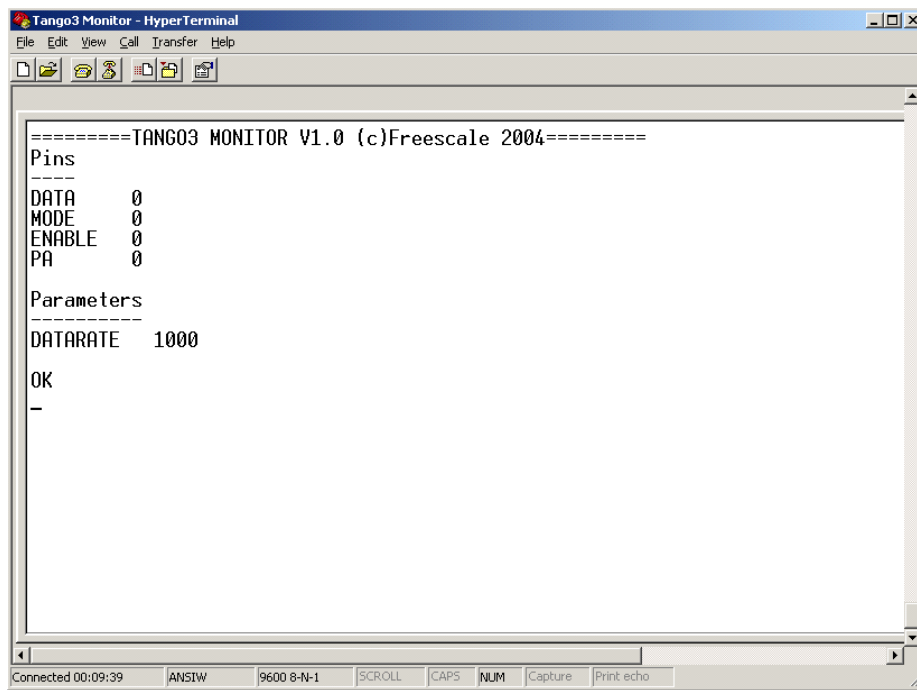
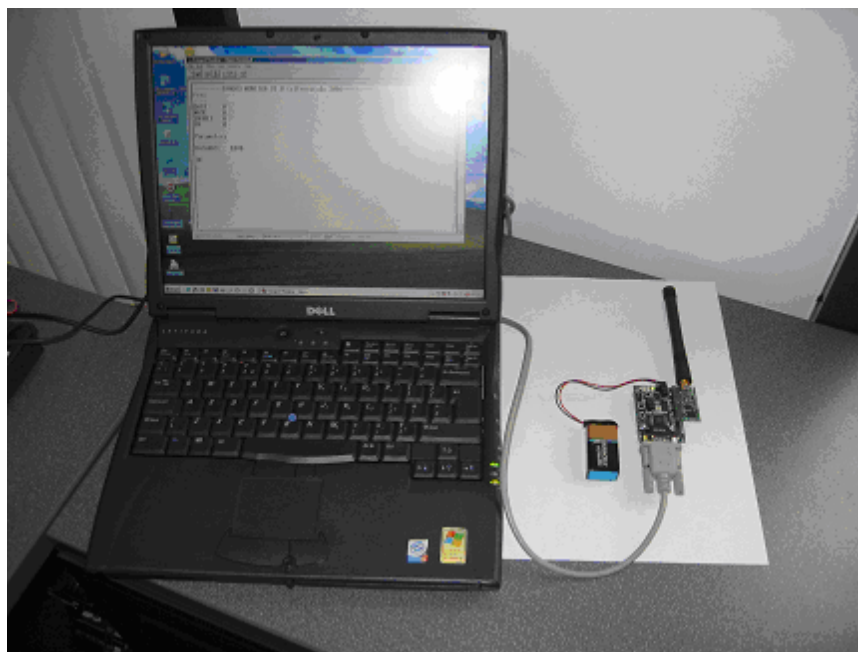
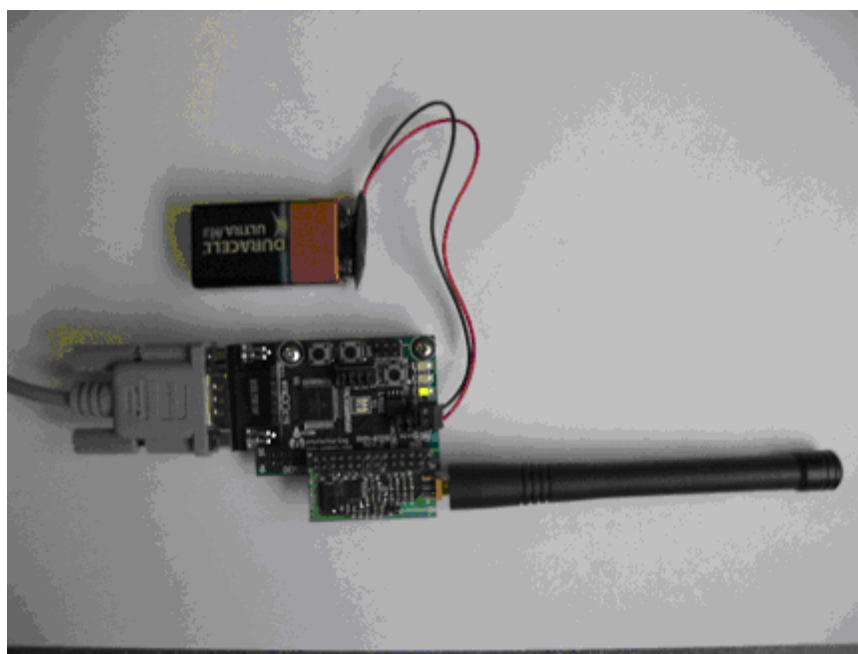

Figure 1. Tango3 Monitor Communicating with Hyperterminal
Figure 2. Tango3 Monitor Setup
Figure 3. Close-up of MC9S08RG60 Demo Board and Tango3 RF Module
The Tango3 Monitor is a software program that runs on Freescale's MC9S08RG60 Demo Board. The MC9S08RG60 Demo Board is connected to a Tango3 RF module, and to a PC via a serial port. The PC runs a terminal emulation program, for example, Hyperterminal. Figure 1 is a screenshot of Hyperterminal showing the monitor program. Figure 2 and Figure 3 show the hardware setup required to use the monitor program.
5. Connect a 9V power supply or battery to the power connector on the MC9S08RG60 Demo Board. (See Figure 3 for a reference setup.)
You should now see the screen shown in Figure 1. If not, press the reset switch on the MC9S08RG60 Demo Board.